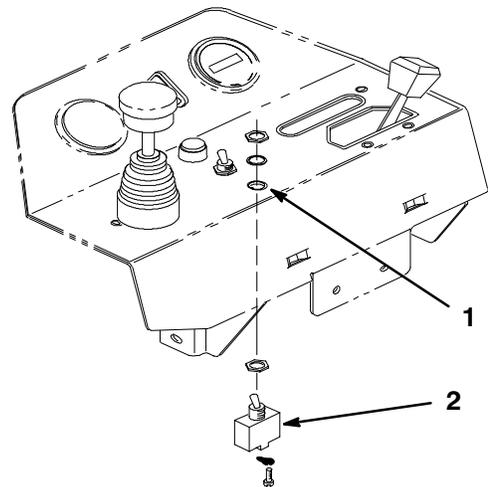

Figure 2
3. At location shown in figure 2, cut decal to expose hole in control panel.
4. Mount ON/OFF switch to control panel with (2) hex nuts and a lock washer (Fig. 2).